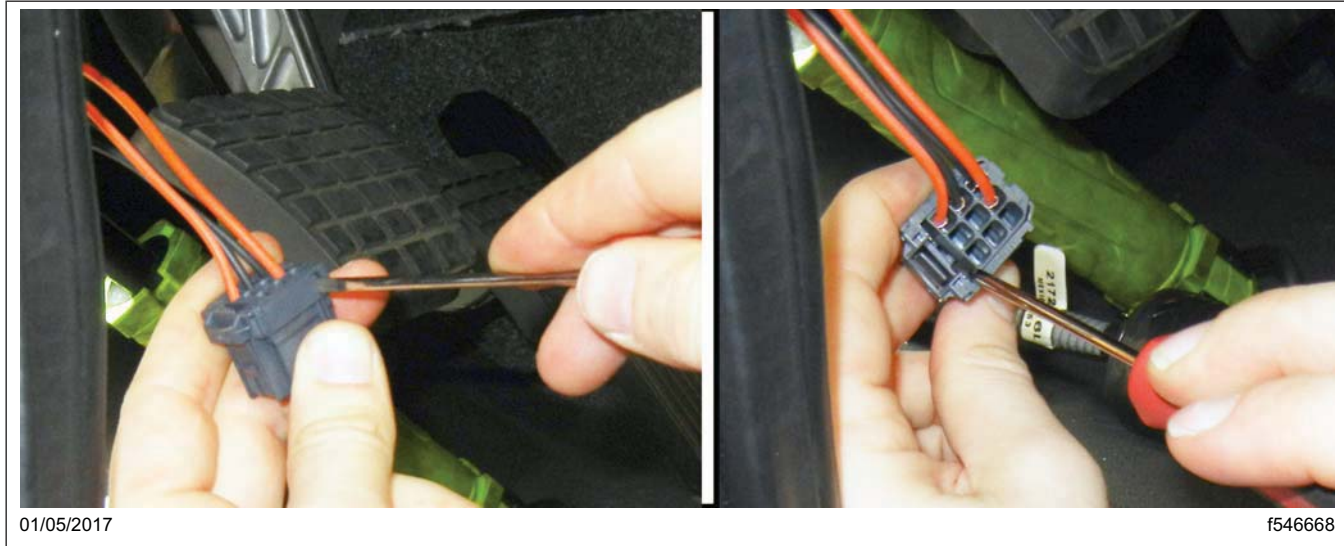

Fig. 9, Removing the Terminal Lock on Connector 52B
11. Unsnap the terminal lock. See Fig. 9.